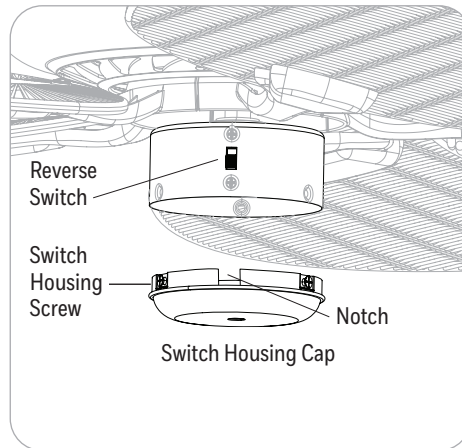

Figure 5.2
2. Remove the three switch housing screws from the switch housing cap. Attach the switch housing cap to the switch housing using the switch housing screws. **Note:** Align the notch in the switch housing cap with the reverse switch on the switch housing (Figure 5.2).